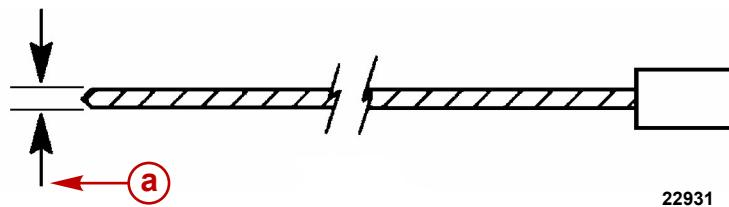

Figure 1. Older core wire
1. Larger diameter armor wrapped core wire. (Figures 1 & 2)